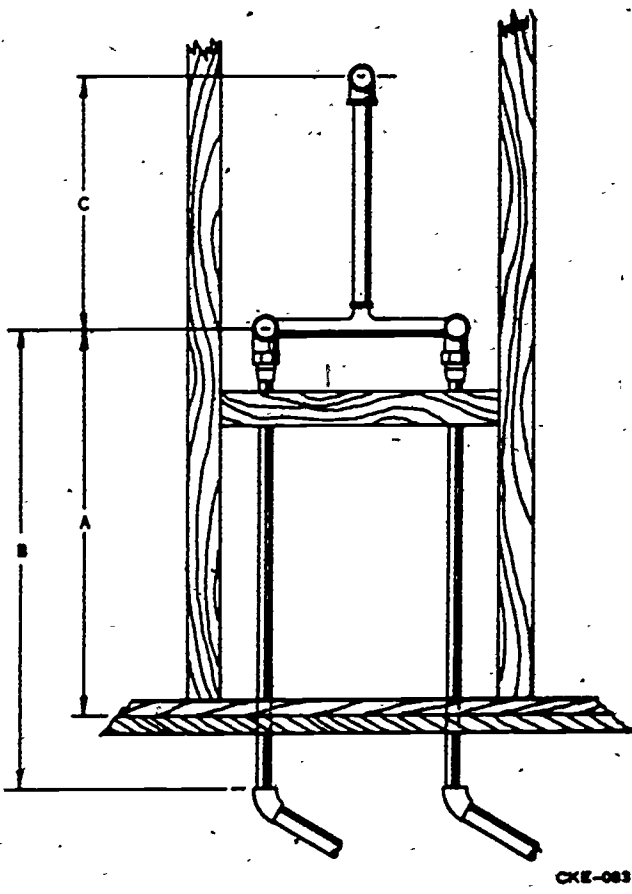

Figure 1
2. Install riser from center of valve (see C, figure 1).